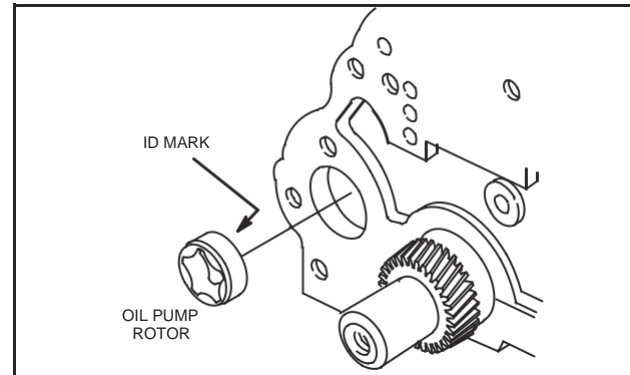

Fig. 10 – Installing Oil Pump Rotor
1. Lubricate oil pump rotor with engine oil and install in cylinder block, Fig. 10.